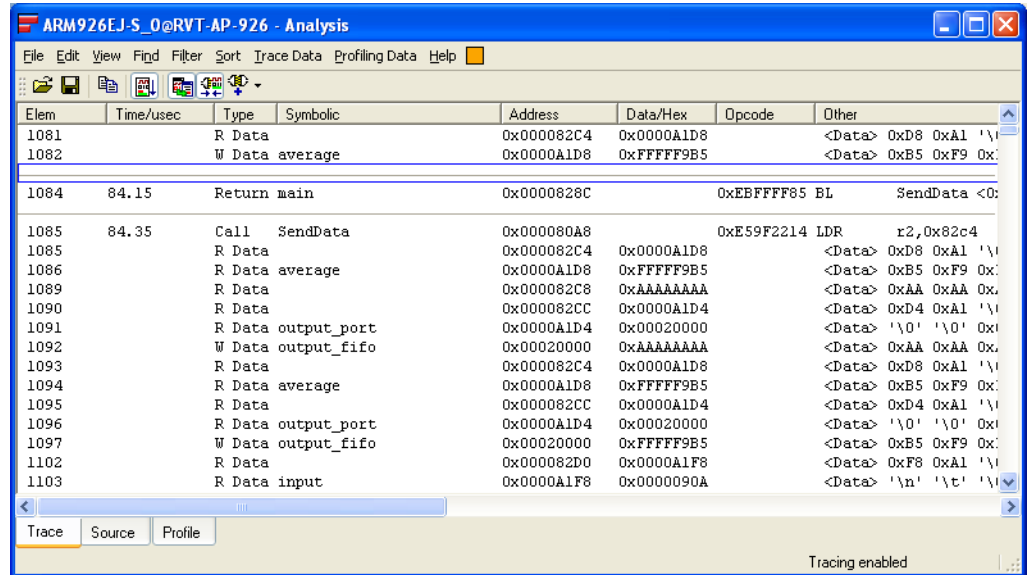

Figure 10-51 Function boundaries in the trace view
3. Select **Function Boundaries** from the **Trace Data** menu to view the function boundaries. Figure 10-51 shows an example: